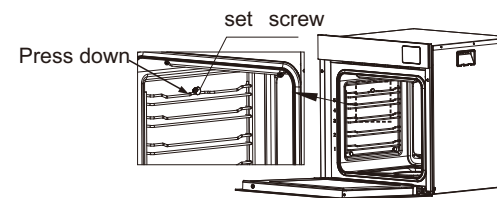

Figure1
8. Removing and Installing the Shelves (The method for left and right shelves is the same): Press the position of the shelf (Figure 1) until the shelf is detached from the positioning screws. Then take it out upward following the arrow in Figure 2 to complete the removal. To reinstall the shelf, align the lower end of the shelf with screws 1 and 2 as shown in Figure 2 and insert it, then fasten the upper end of the shelf into the positioning screws.